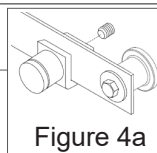

Figure 4a
7. Position the Adjustable Stop where needed hand tighten and, if needed using an Allen wrench, secure with the set screw from the back side (Figure 4a).